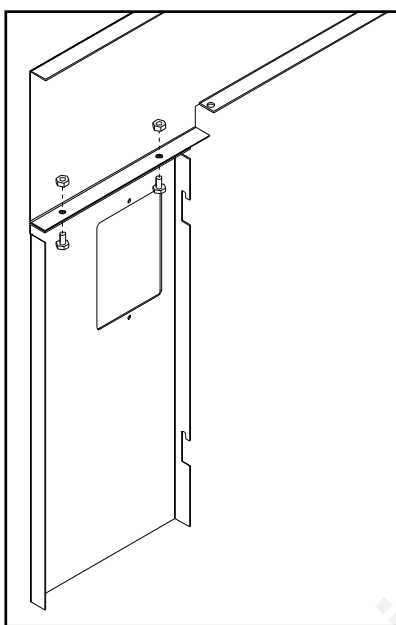

Figure 30: Assembling the Surround Panel, back view.
1. To assemble the surround panels, lay the panels face down on a soft flat surface and align the outer edges of the sides with the top panel. Bolt the sides to the top using two (2) ¼" nuts and bolts on each side (refer to Figure 30).